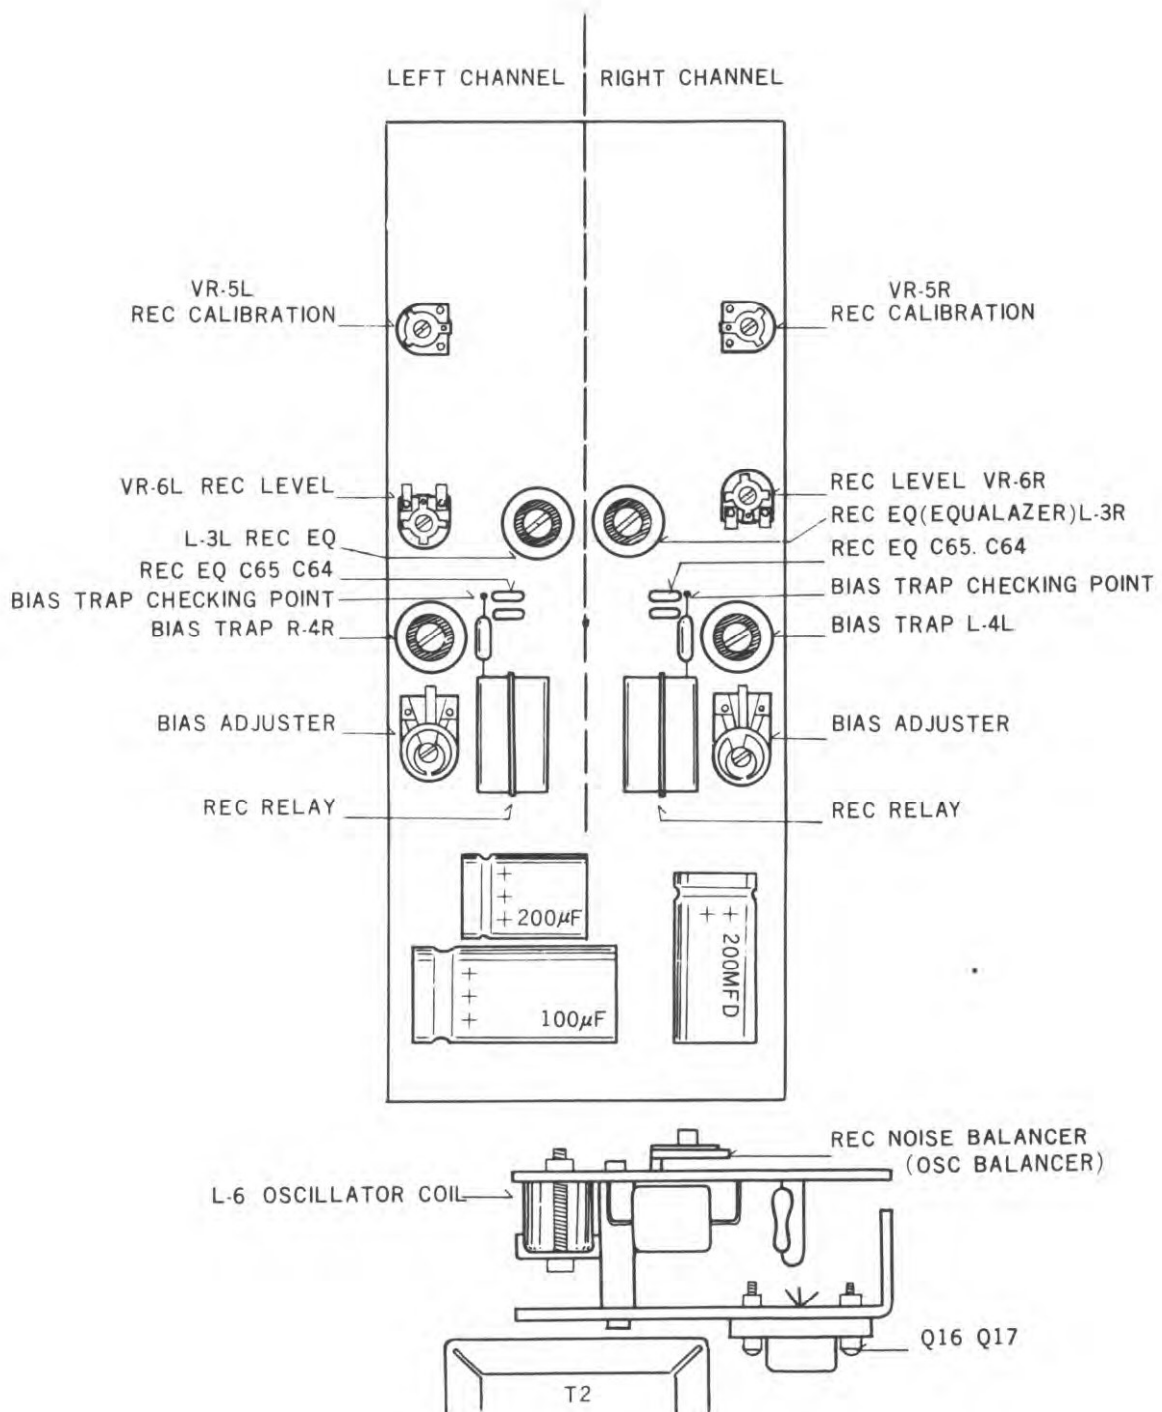

FIG. 17 ADJUSTABLE PARTS LOCATION (TOP VIEW)
2. While recording a 500 Hz tone on a blank tape, adjust VR-7 (Figure 17) for maximum peak on the VTVM, then turn the potentiometer clockwise until the reading decreases by 0.5dB from the maximum level.
3. Connect the Audio Oscillator to the RIGHT channel LINE input and repeat Step 2, adjusting VR-8 (Figure 17).
2. While holding a VTVM probe at the junction of C-61L and L-4L (Figure 17) adjust L-4L for minimum reading on the VTVM.
3. Repeat the procedure for the right channel by connecting the VTVM to the junction of L-4R and C-61R (Figure 17). Adjust L-4R for minimum reading on the VTVM.
5. While recording a 500 Hz signal on the tape, adjust VR-6L (Figure 17) to obtain VU meter reading of 0 VU on the left channel adjust VR-6R to obtain VU meter reading of 0 VU on the right channel.
4. Record signals from 50 Hz to 15 KHz at 7 $\frac{1}{2}$ ips, or from 50 Hz to 7.5 KHz at 3 $\frac{3}{4}$ ips. Read the output on the VTVM. If adjustment is required, adjust the value of R-115L (Figure 17) for the low end and C-65L for the high end at 7 $\frac{1}{2}$ ips. Adjust C-64-L for high end response at 3 $\frac{3}{4}$ ips. For left channel. Adjust R-115R C-65R and C-64-R for right channel. These are fixed components and have to be replaced with other values. An increase in resistance lowers the low end response. An increase in capacitance increases the high end response.